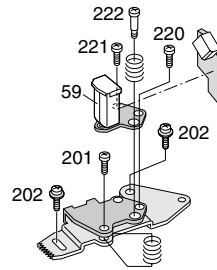

Fig. 6
- Undo 2 screws (Pos. 221 / 222, Fig. 6) and remove the A/C head assembly.
- When replacing the A/C head, adjust the head horizontally at 10.8mm using the height adjustment screw (Pos. 201), azimuth adjustment screw (Pos. 221) and the tilt adjustment screw (Pos. 220) (Fig. 6/7).